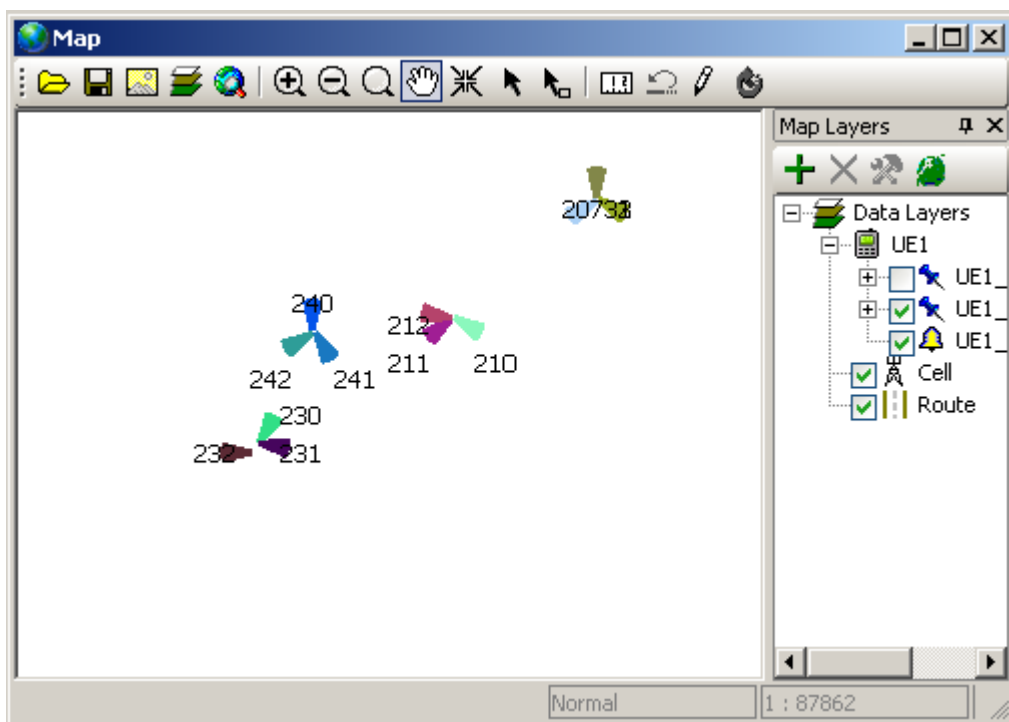

Figure 6-13 Map window with the BTS information
- 1) Open the **Map** window, as shown in Figure 6-13.